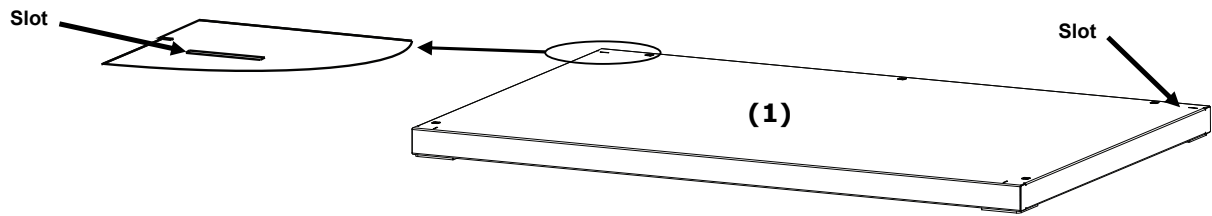

Figure 1. Bottom panel
1. Place the bottom panel (1) on a clean, smooth surface. Refer to Figure 1.